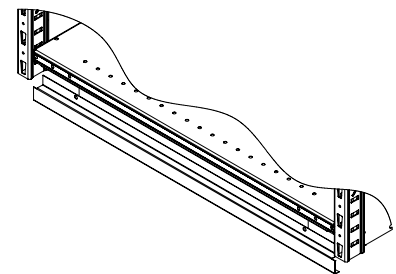

FIGURE 9
**3C.** Bolt base strip to bottom shelf, Figure 9. Use (2) 1/4-20 x 1-1/4 truss head bolts and nuts.